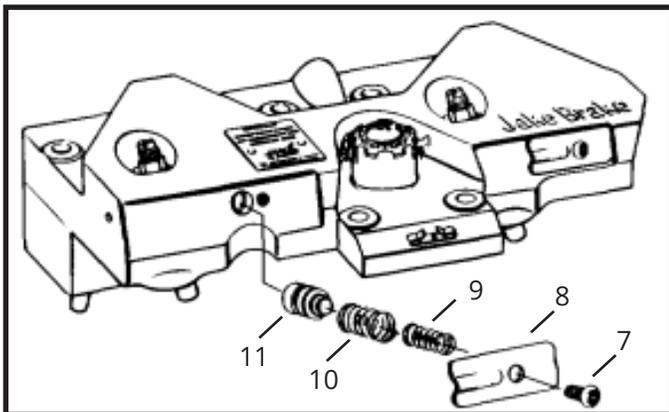

Fig. 2
3. Slowly remove the cover until spring force ceases, then remove the two control valve springs (see Fig. 2).